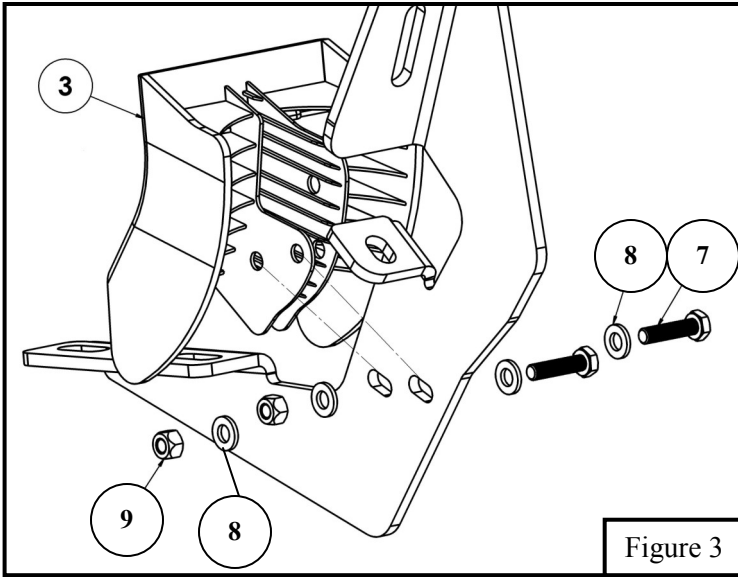

Figure 3
6. Locate (1) Plastic Bracket Cover (Item 3) and loosely secure it to the (6) brackets using the provided hardware: (2) M6 hex head bolt, (4) M6 flat washer, and (2) M6 nylon lock nut. Repeat for every bracket. See **Figure 3**.